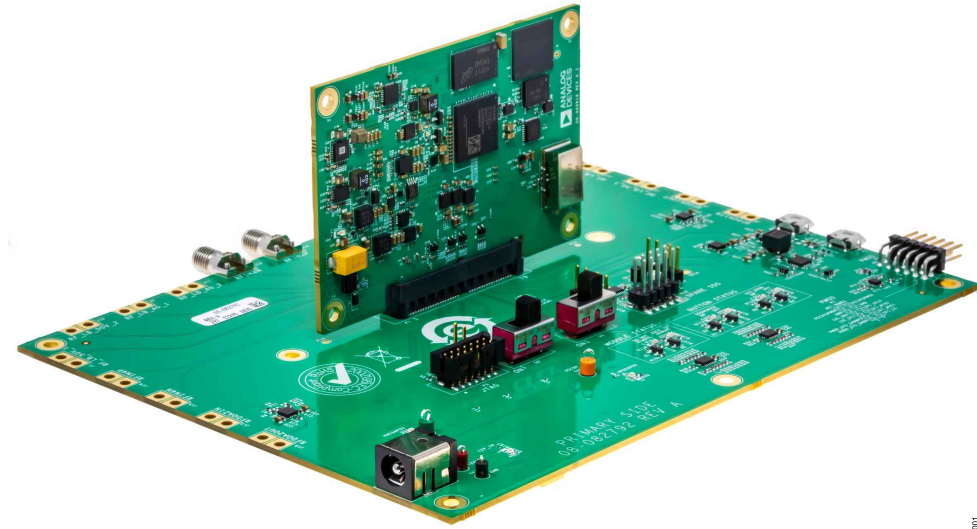

Figure 1. Digitizer Module Board ADMX6020M and Evaluation Carrier Board EVAL-ADMX6020
- ▶ Plug the module board into Connector P1 on the carrier board as shown in Figure 1.